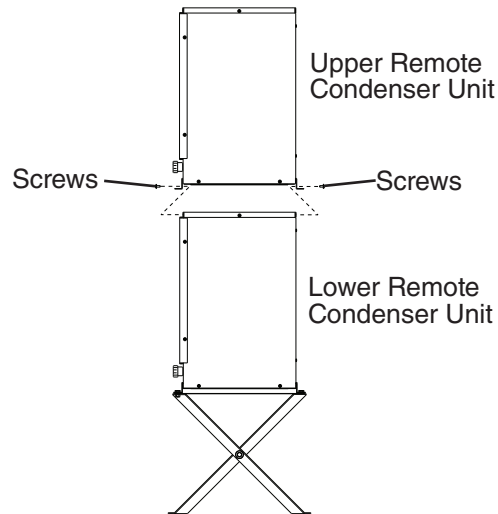

Fig. 19
- 2) Place the upper remote condenser unit on top of the lower remote condenser unit. See Fig. 19.